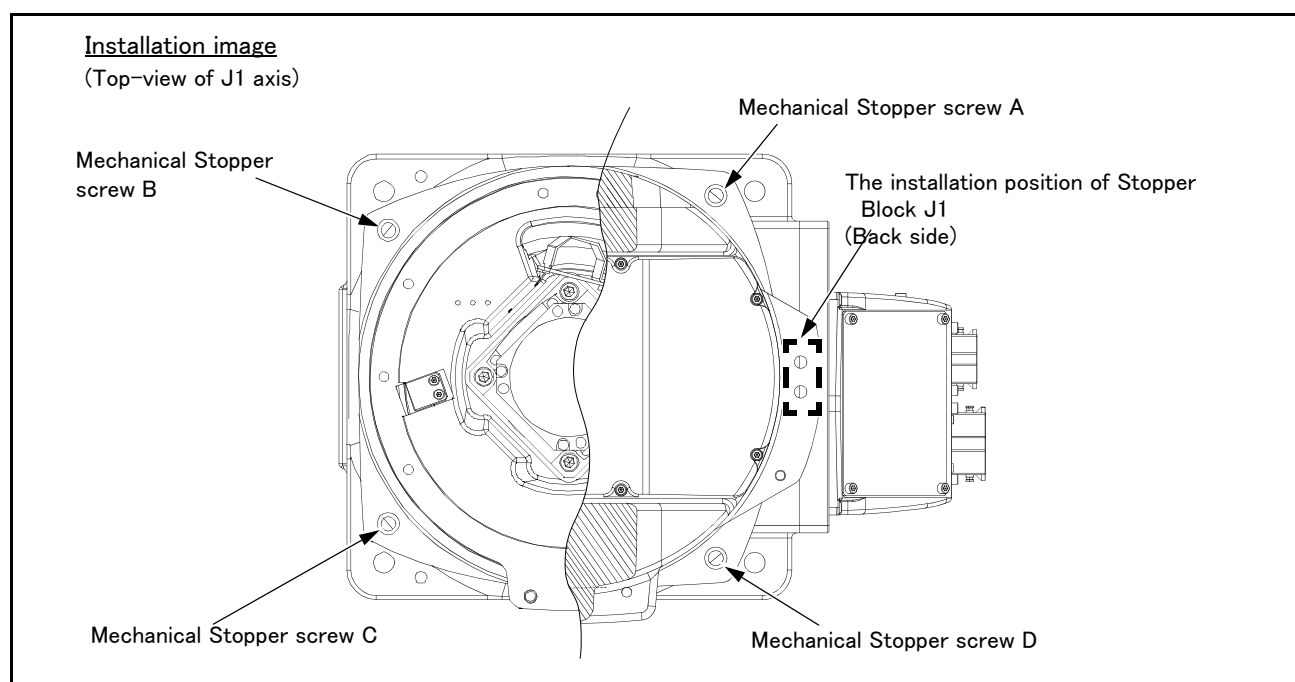

Fig.3-2 : Installation image of J1 axis operating range change option (RV-13F series)
Note1) Symbol: “(A)” – “(D)” in the Table 3-5 is related with the symbol of “Fig. 3-2: Installation image of J1 axis operating range change option (RV-13F series)”.
- 4) Install the <3> Mechanical Stopper screw. Install the <3> attached Mechanical Stopper screw to the needed point with referring to Table 3-5 and Fig. 3-2.